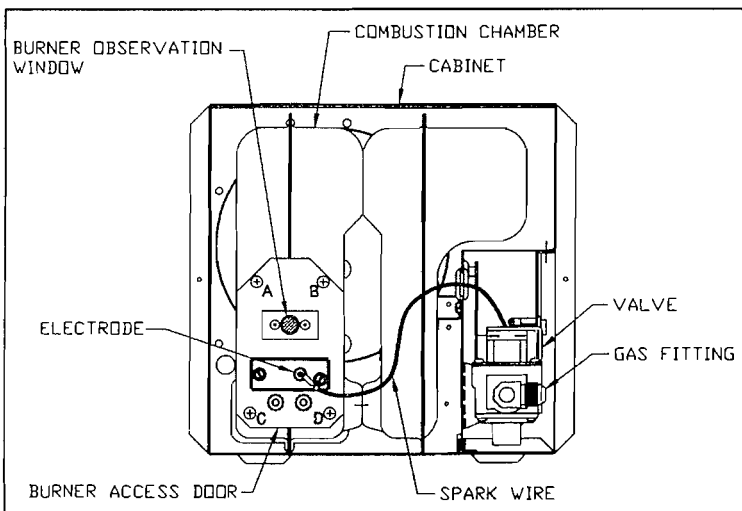
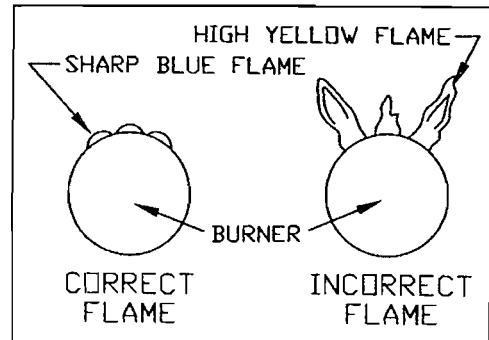

Figure 1
Figure 2
2. Periodically observe the main burner flame to assure it is burning with a hard blue flame with well defined burner ports (See Figure 2). If flame appears yellow or burner has a lazy flame, shut furnace down. It is possible that burner needs cleaning or replaced. To inspect the main burner, remove the four (4) screws (A, B, C and D) securing the burner access door to the combustion chamber (See Figure 1). If excessive rust and corrosion are present on burner surface, the burner must be thoroughly cleaned or replaced. The burner may be cleaned using a steel wire brush and blown clean using high compression air. Contact a qualified service person for assistance.
NOTE: To observe flame, cabinet front must be removed. Operation of burner can then be observed through the viewing window on front of chamber. (See Figure 1.)